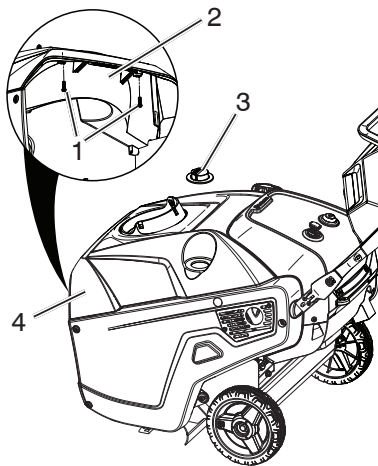

Figure 27
6. Remove two screws in plenum that hold top cover (Figure 27).
23. Reattach two screws through the rear covers and into the clip on the side cover (Figure 27).
28. Reinstall two screws in the plenum that attach to the top cover (Figure 27).